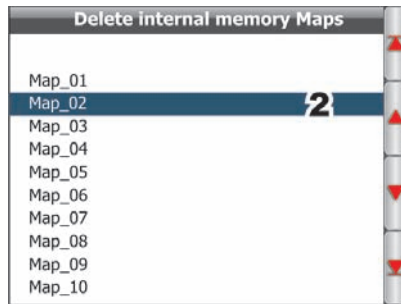

Fig. 154
- 2 Scroll down the map list (Fig. 154) and select the files to delete;